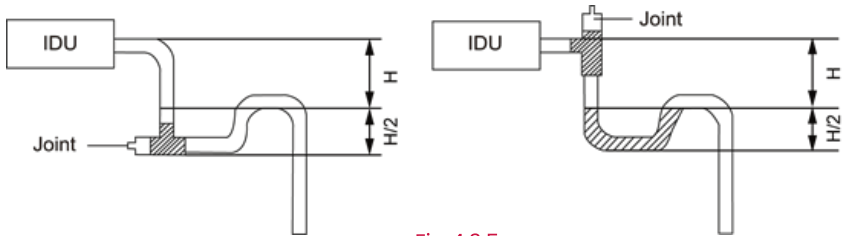

Fig 4.3.5
5. Install the trap as shown in following Fig 4.3.5.